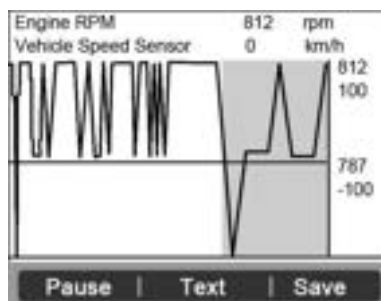

Figure 5.12
- If the “**Graphics**” on the bottom appears when a PID is highlighted, graphic information is available. Select **Graphics** to view graph (Figure 5.12). PID name, current value, maximum and minimum values are displayed on the screen.